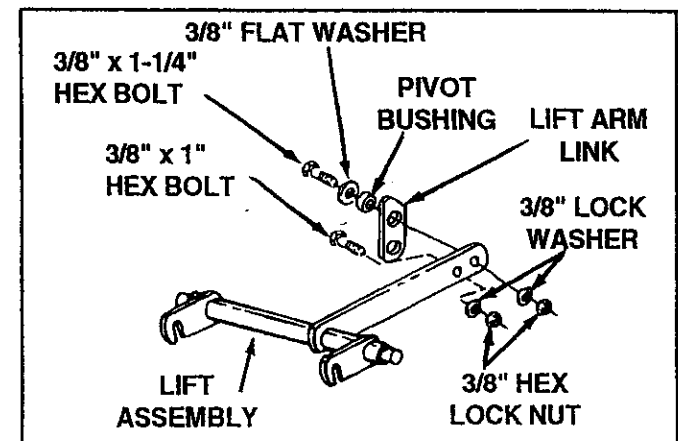

FIGURE 17
13. Pre-assemble lift arm link to inside of long arm on lift assembly. As shown in figure 17.
14. Assemble one  $3/8"$  x  $1-1/4"$  hex bolt through  $3/8"$  flat washer, through pivot bushing, through large hole in lift arm link near angle end and through hole in long arm nearest the end. Secure with one  $3/8"$  lock washer and one  $3/8"$  hex lock nut. See figure 17. NOTE: Lift arm link must pivot freely.
15. Assemble one  $3/8"$  x  $1"$  hex bolt through second hole from end of long arm. Secure with one  $3/8"$  lock washer and one  $3/8"$  hex lock nut. This bolt is used as a limit stop for the lift arm link. See figure 17.
Lift arm link must be positioned as shown in figures 17 and 19.